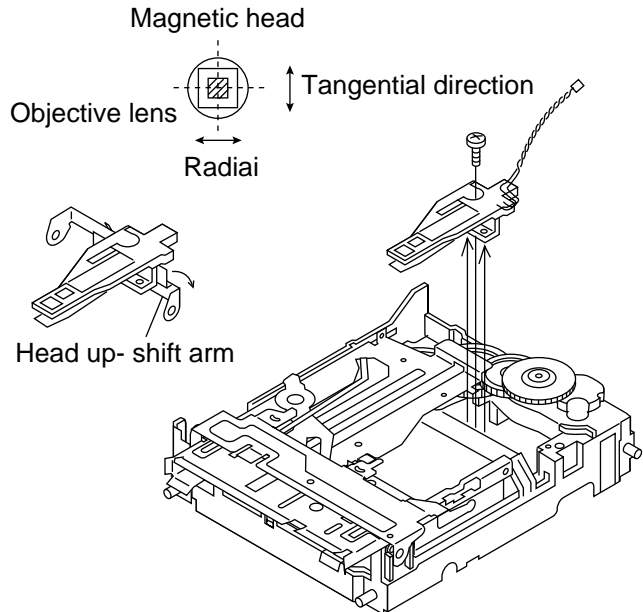

Figure 42-2
4. Check that the magnetic head moves up and down smoothly. (shown in Figure 42-2)